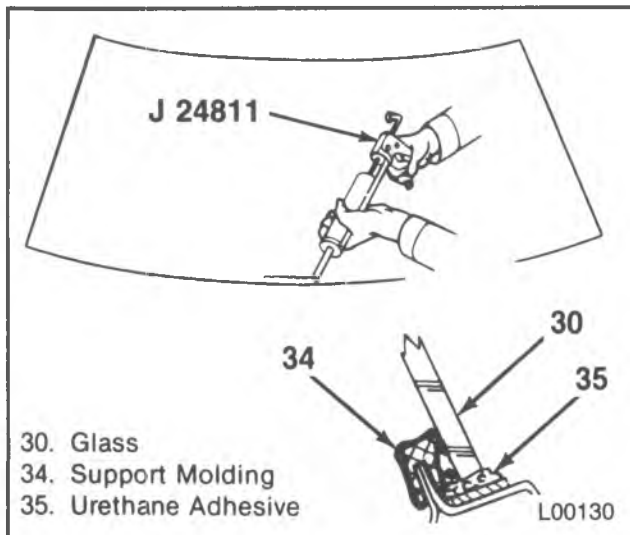

Figure 14 — Urethane Applications
3. Adhesive dispensing gun J 24811 (Figure 14) or